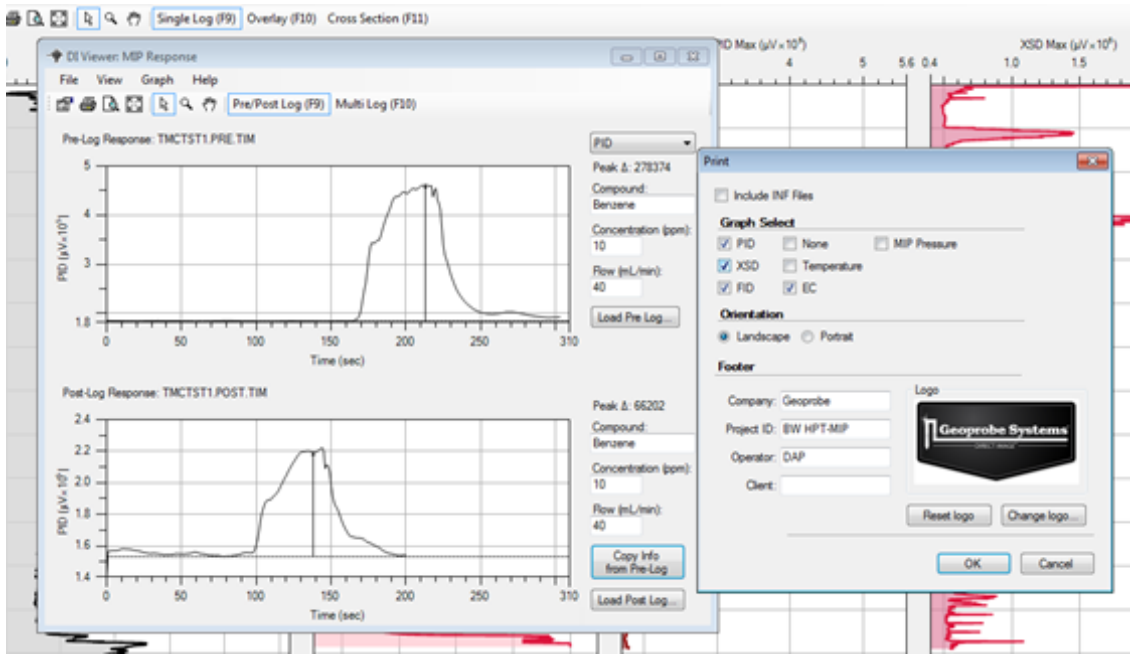

Figure 46: Printing MIP Response test graphs
1. Most of the print functions within MIP response test graph printing are the same as in the main DI Viewer Log printing however we can now select multiple data series to print on a single page (Figure 46). These single page printouts will be of just the Pre or Post log response test and can have a maximum of four data series per page.